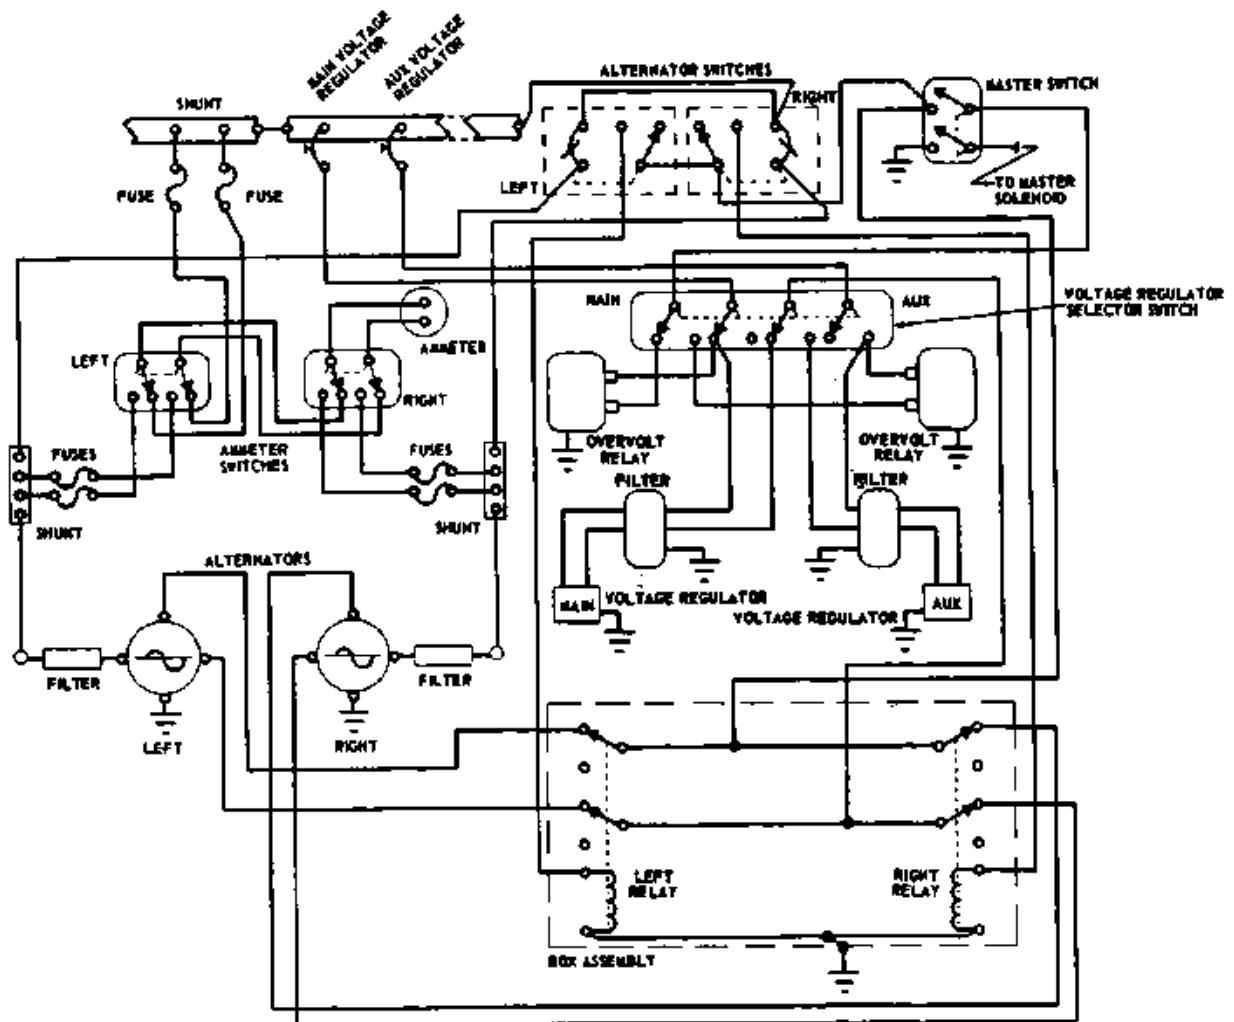

Figure 11-20. Alternator Wiring System Schematic
**11-53. CHECKING ALTERNATOR SYSTEM.** The ammeter is equipped with a selector switch which enables an independent output check of each alternator, as well as the electrical output-input of the battery. Should either alternator show no output on the ammeter, check the alternator output and field thermo circuit protectors, and ammeter line fuses. If a further check of the ammeter shows no output from both alternators, switch to the auxiliary voltage regulator and over-voltage relay. If switching to the auxiliary system indicates no electrical output, further check the alternator system. (Refer to Figure 11-20.)
f. To check the alternator output circuit, connect a voltmeter or 14-volt test light to the battery lead and to ground. If a reading of approximately 14-volts registers on the voltmeter or the test light lights, the battery circuit is operational. Should there be no indication of voltage, trace back through the output circuit until voltage is indicated. (Refer to Figure 11-20.) A component that allows no voltage to pass through it should be replaced.
Always refer to the wiring diagram (Refer to Figure 11-20 when installing the alternator or testing the alternator.